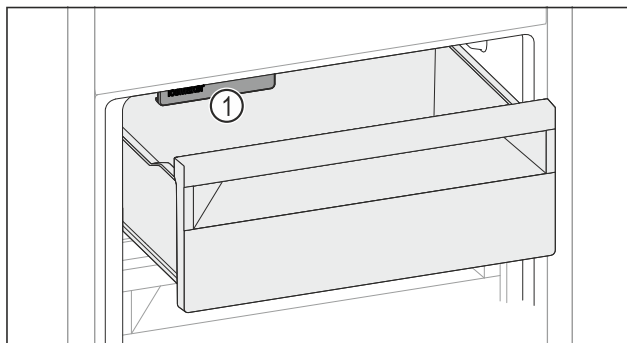

Fig. 165
- ▶ Pay attention to the IceMaker Fig. 165 (1).